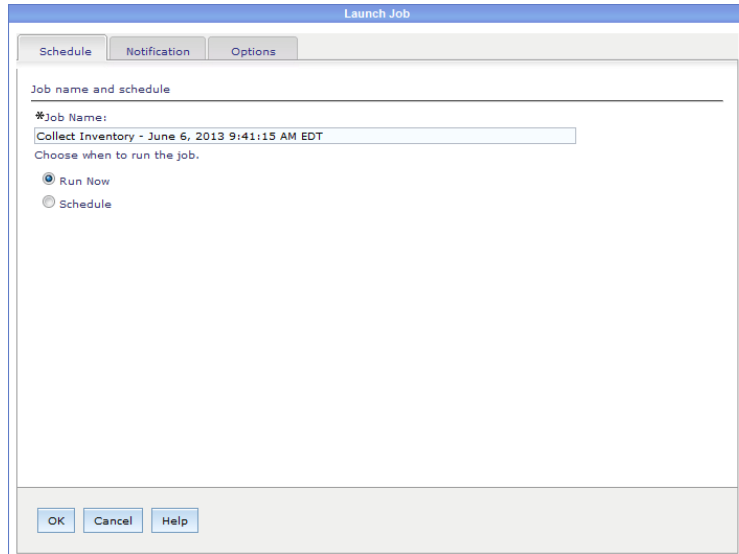

Figure 3-95 Task Launch Dialog
6. Use the Task Launch Dialog box that is opened to verify the name of the inventory, and time for running it, as shown in Figure 3-95.